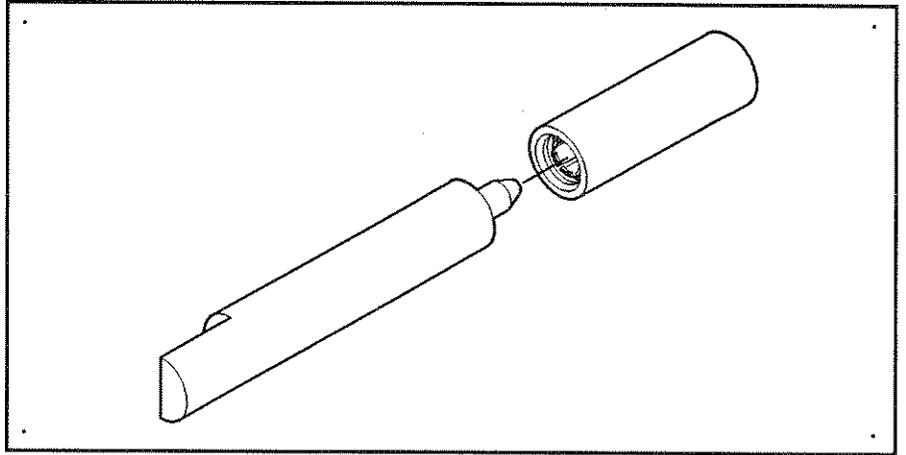

Figure A-19. Inserting the Testing Tool
2. Under magnification, carefully install the testing tool in the slotless contact assembly (see Figure A-19).